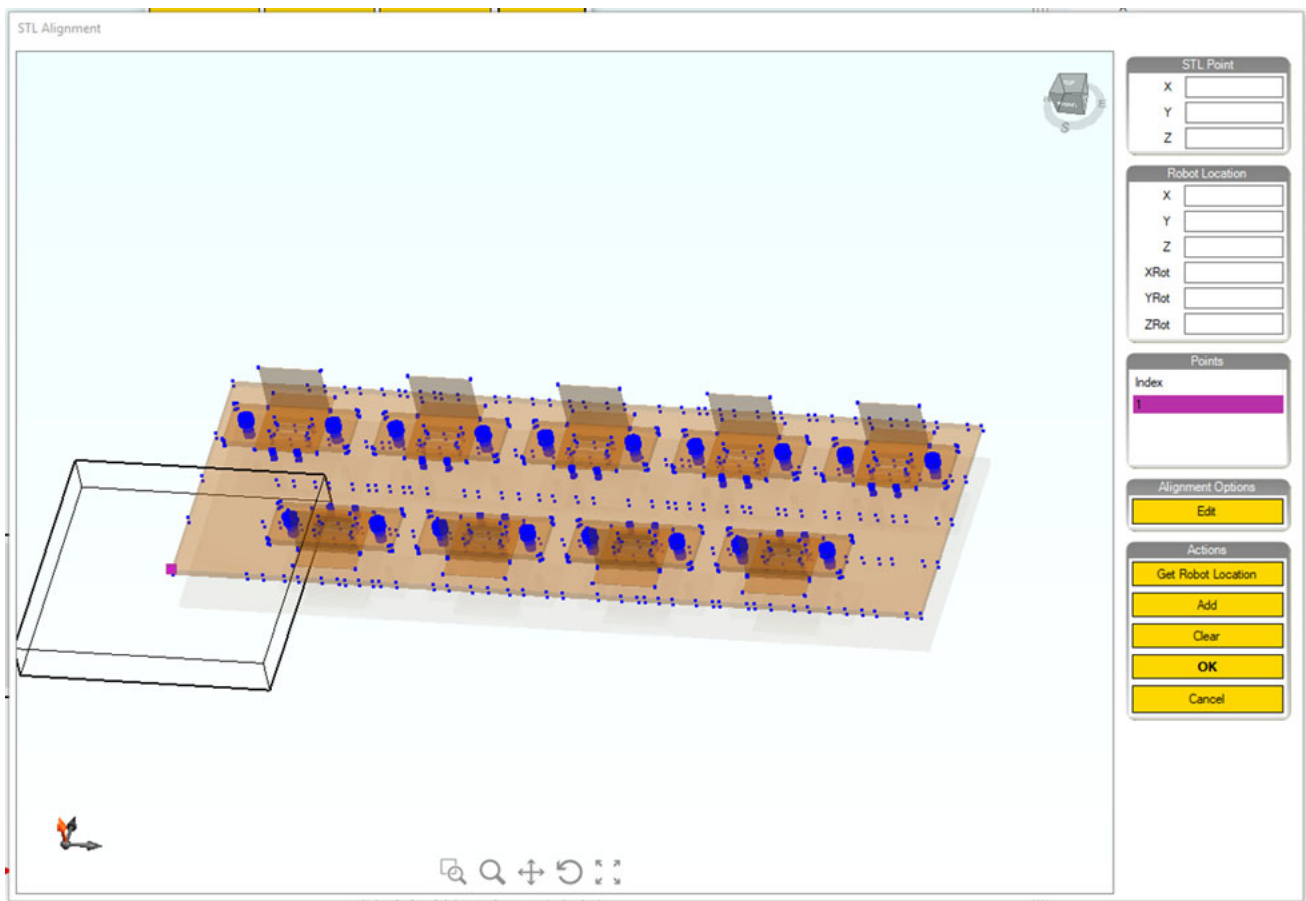

Figure 288: Calibrating the Point
10. Click "Add" in the STL Alignment Window. This will add a calibrated point to the "Points" list (see Figure 288).